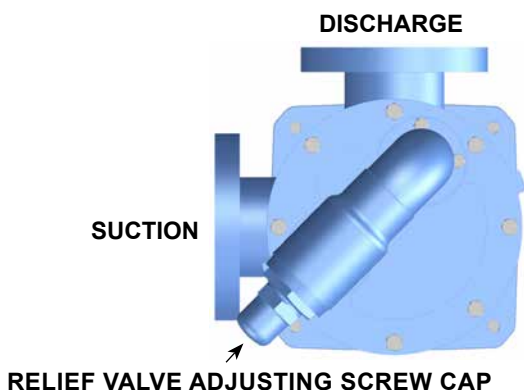

FIGURE 2 RELIEF VALVE POSITION
4. The relief valve adjusting screw cap must always point towards the suction side of the pump, see **Figure 2**. If the pump rotation is reversed, remove the pressure relief valve and turn end for end (see “**Pump Rotation**”, page 9).